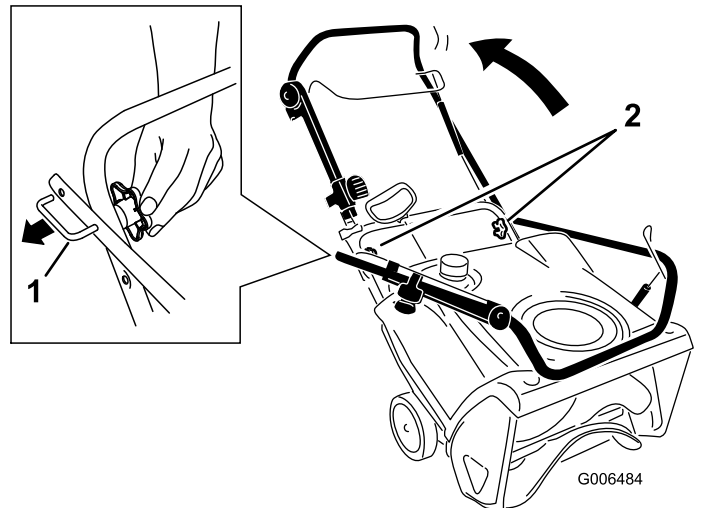

Figure 3
1. Loosen the lower handle knobs, pull out the handle bolts until you can move the handle freely, and rotate the handle to the operating position (Figure 3).